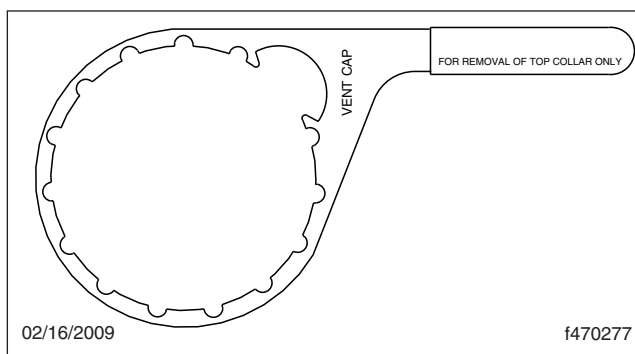

Fig. 4, DAVCO Collar Wrench
- Using a DAVCO Collar Wrench, shown in Fig. 4, remove the collar and clear cover.